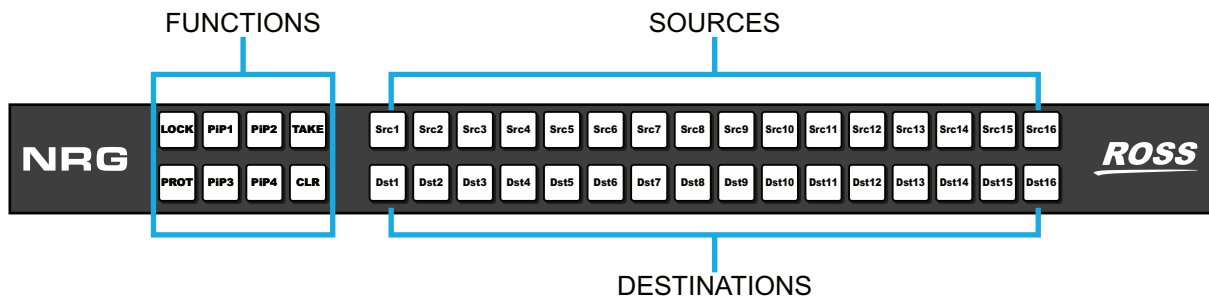
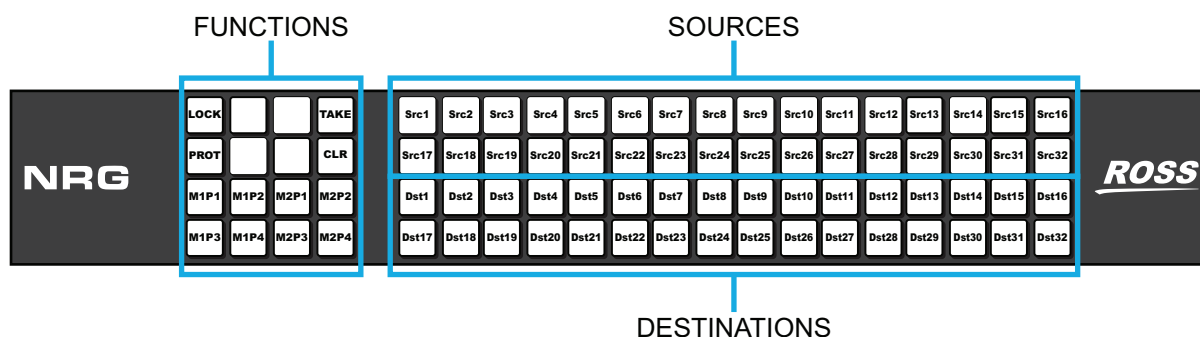

Figure 35 NRG-FR1-LCP Front Panel — Default Button Configuration
Figure 36 NRG-FR2-LCP Front Panel — Default Button Configuration
The number of function buttons depends on the router type. The NRG-FR1-LCP (**Figure 35**) provides 8 function, 16 source, and 16 destination buttons. The NRG-FR2-LCP (**Figure 36**) provides 16 function, 32 source, and 32 destination buttons. By default, each button is configured from the factory. You can choose to keep the default assignments, or reassign to other functions as required.
- ★ The physical buttons do not display a text label. **Figure 35** and **Figure 36** show the default function assignments as a reference only.
The NRG-FR1-LCP is factory configured with the button assignments as depicted in **Figure 35**.
The NRG-FR2-LCP is factory configured with the button assignments as depicted in **Figure 36**.